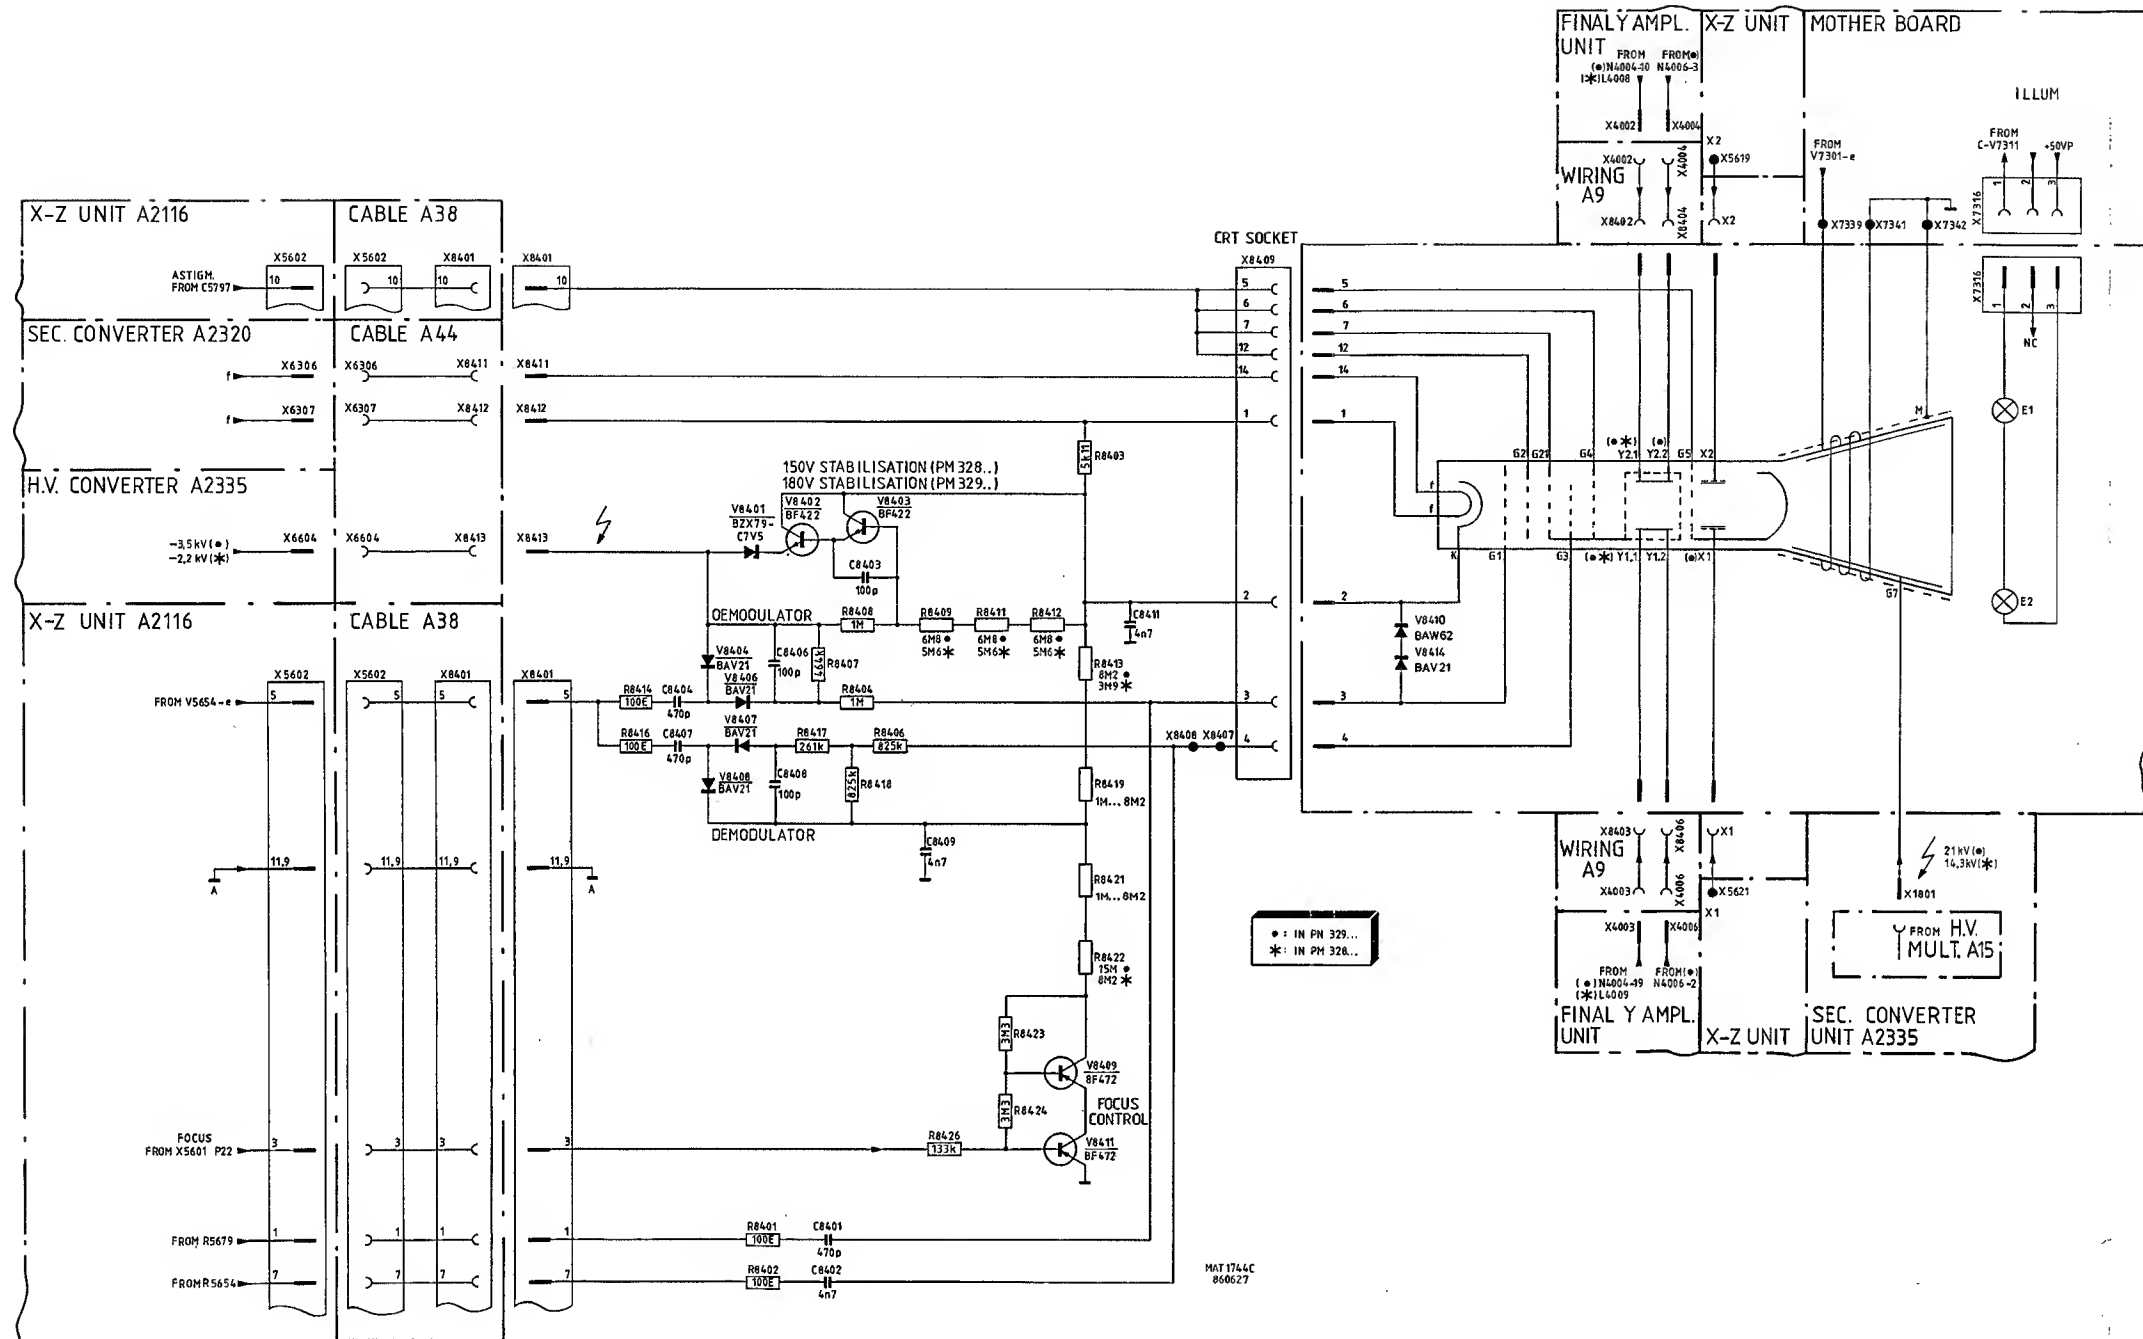

Fig.17.2. CRT-socket, circuit diagram.
17. CIRCUIT DESCRIPTION OF CRT SOCKET (See fig.17.2)